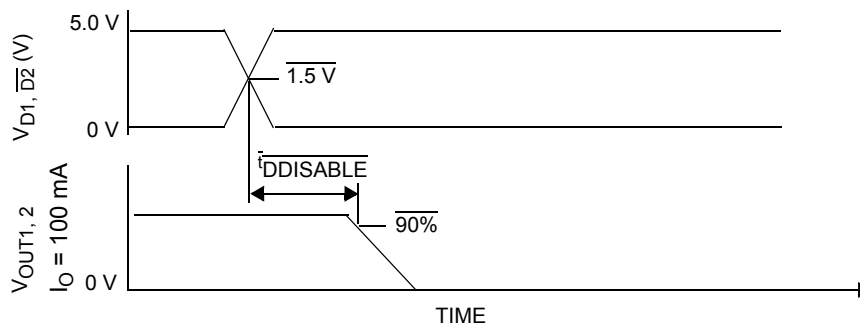

Figure 5. Disable Delay Time
26. Disable Delay Time measurement is defined in Figure 5, page 11.